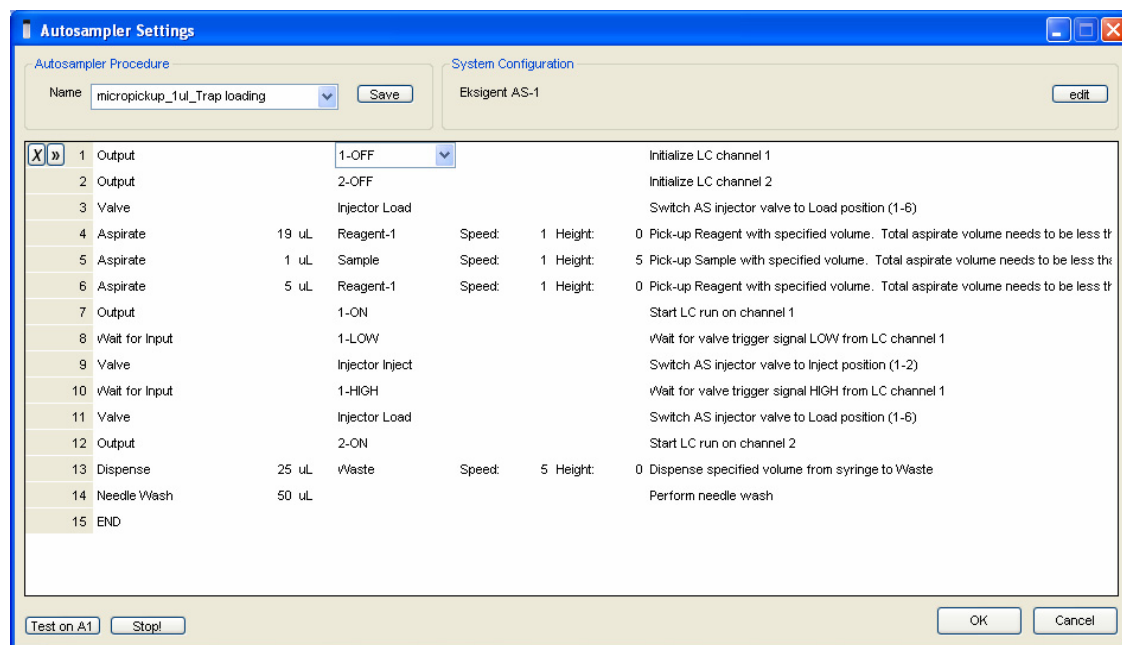

Figure 5-7. Autosampler Method Editor Window
- step 5* Click **Autosampler Methods** to bring up the **Autosampler Method Editor Window** (Figure 5-7).